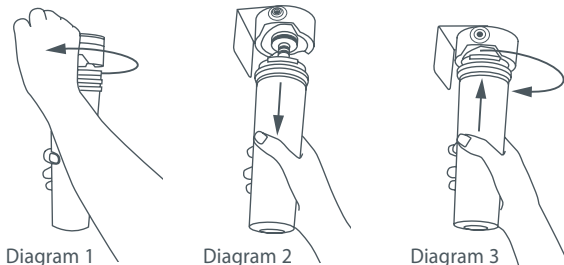

Fig.22 Changing the water filter cartridge
- 2 Pull the cartridge away from the filter head (down when installed in the recommended orientation) as shown in Diagram 1 of Fig 22 below.